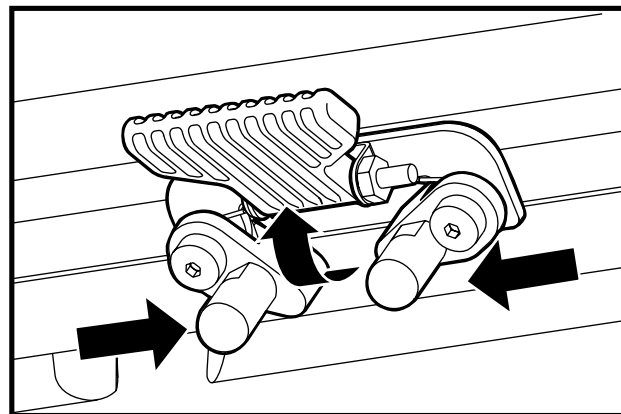

Figure 13. Seat Latch Safety
4. Flip up the seat latch safety. See figure 13.
3. Flip up the seat latch safety. See figure 13.